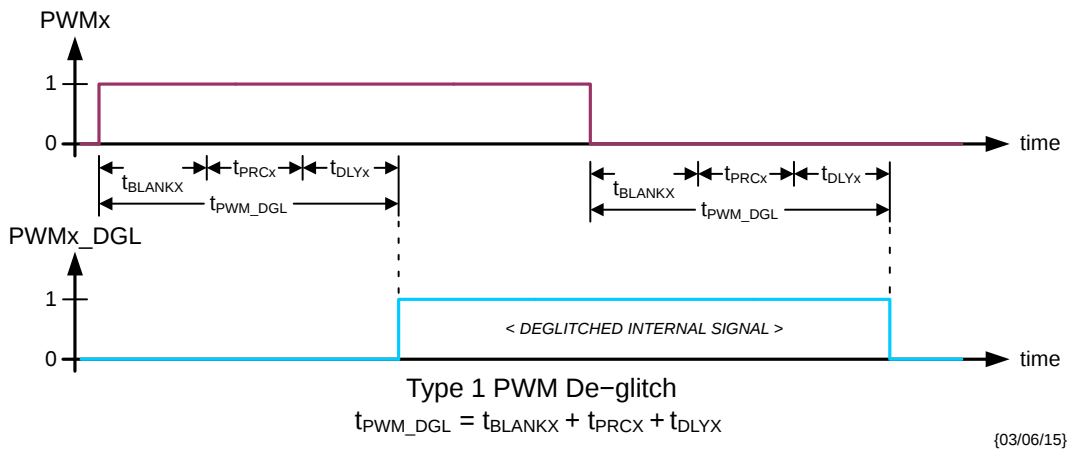
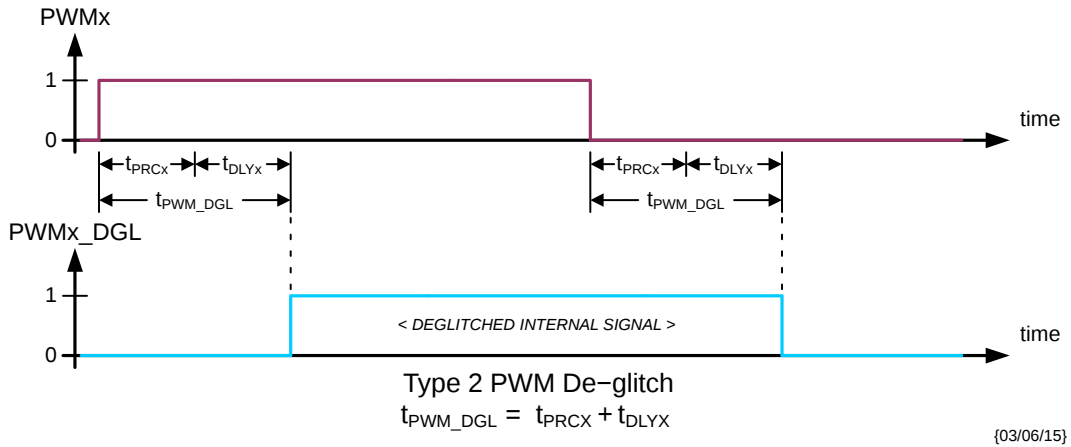
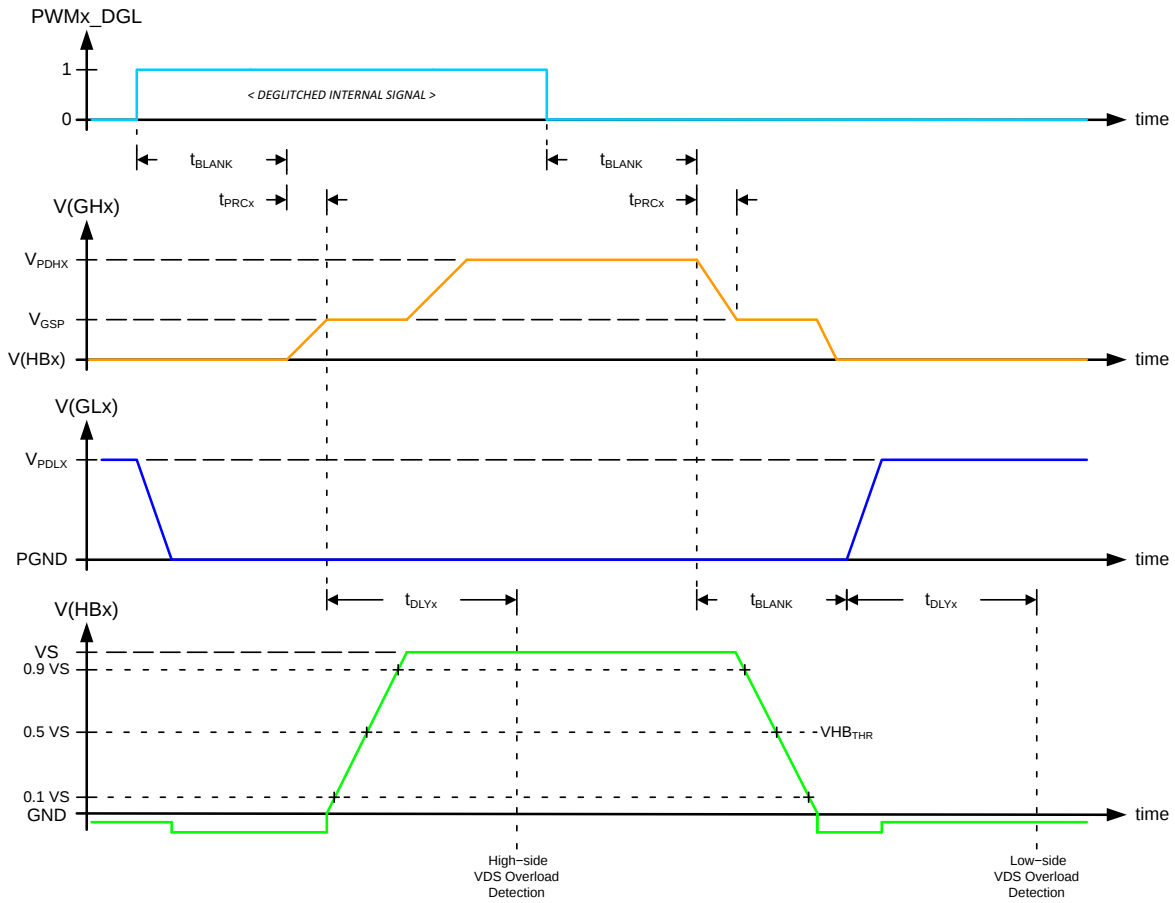

Figure 10. Type 1 PWMx Input De-glitch – CR14.DGLx = 0
Figure 11. Type 2 PWMx Input De-glitch – CR14.DGLx = 1
Figure 12. HBx Output Switching in Half-Bridge Configuration
When multiple PWMx inputs are needed to be active, the scheduled PWM signals should be offset in time to avoid degradation of the VDS overload detection due to crosstalk (see § *Overload Protection*). The minimum offset should be based on the  $t_{PWM\_DGL}$  times appropriate for the respective channels (see § *Switching Behavior of Half-bridge Drivers*, Figure 10 and Figure 11).
- adaptive PWM input de-glitch construction when in half-bridge configuration is selected by DGLx[6:0] bits (see Figure 10, Figure 11, Table 21 and Table 22).
In order to not overload the charge pump circuit in case of loss of VS or in case of a disconnected security switch, the steady state output current of the high-side gate drivers is limited to  $I_{GHX\_SS}$  after  $t_{TIMEOUT}$  (see  $I_{GHX}$  in Figure 12 and § *Electrical Characteristics: Half-Bridge Pre-Driver Outputs*).
When operating in PWM mode, type 1 de-glitch is selected when CR14.DGLx = 0 (see Figure 10) and the adapted time is given by:
Type 2 de-glitch is selected when CR14.DGLx = 1 (see Figure 11) and the adapted time is given by:
When operating in PWM mode, the timing of the gate drivers is according to Figure 12.
- the PWMx\_DGL resulting from the channel's operating configuration (see § *Switching Behavior of Half-bridge Drivers*, Figure 10 and Figure 11);
The appropriate latch is set (after the adapted  $t_{PWM\_DGL}$  – see Figure 10 and Figure 11) at the start of the switch activation (see V(HBx) in Figure 12). In the case of the high-side MOS, the delay time  $t_{DLYX}$  is started at the end of the pre-charge time ( $t_{PRCX}$ ). In the case of the low-side MOS, the delay time  $t_{DLYX}$  is started concurrent with the GLx turn-on current (see I(GLx) in Figure 11). At the end of time  $t_{DLYX}$  the switching node voltage is compared with the appropriate  $VDS_{THR\_R}$  or  $VDS_{THR\_F}$  overload detection threshold (see § *Electrical Characteristics: Half-Bridge Diagnostics*).